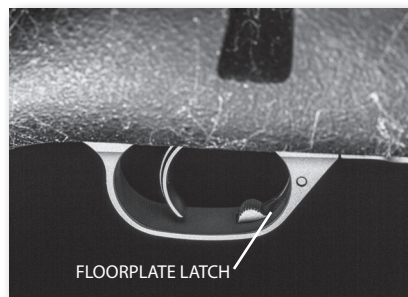

Fig. 4
4. To unload the magazine, open the floor plate by depressing the floor plate latch (*refer to Fig. 4*). The floor plate will swing out, allowing the cartridges to drop free. Do not allow the cartridges to fall to the ground as they may be damaged or become dirty making loading and chambering more difficult. **Subsequent loading of a damaged cartridge may cause a live round to become jammed in the chamber of the firearm resulting in an unsafe condition.**
- a. Press the floorplate latch (*refer to Fig. 4*) to open the floorplate.